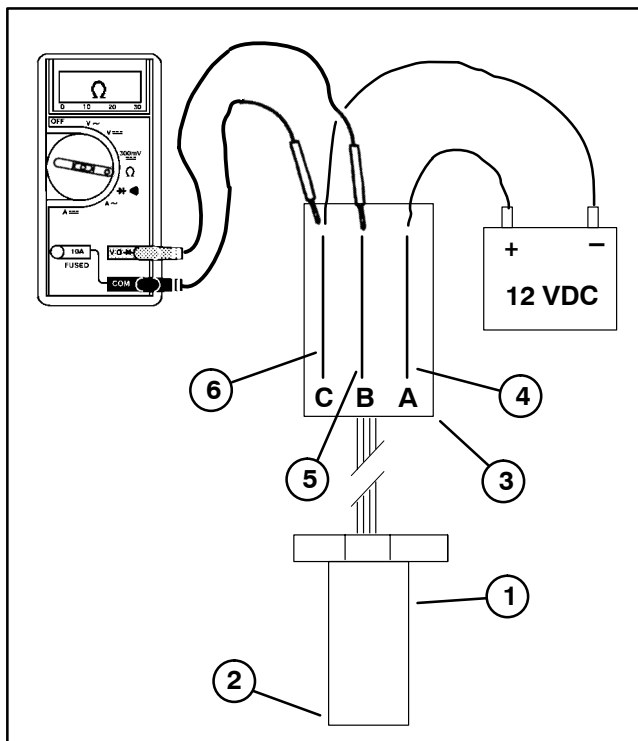

Figure 18
3. Connect positive multimeter test lead to the sensor connector gray striped wire terminal and the negative multimeter lead to the connector black wire terminal (Fig. 18). Set multimeter to ohms setting.
4. Using jumper wires, apply +12 VDC to the sensor connector red striped wire terminal and ground the connector black wire terminal (Fig. 18).